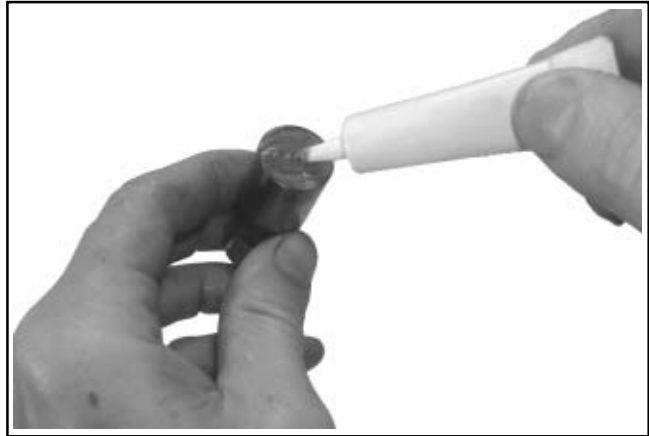

Figure 11-34. Applying Camshaft Lubricant to Bottom of Lifters.
2. Apply camshaft lubricant (Kohler Part No. **25 357 14-S**) to the bottom surface of each lifter. See Figure 11-34. Lubricate the hydraulic lifters and the lifter bores in the crankcase with engine oil.